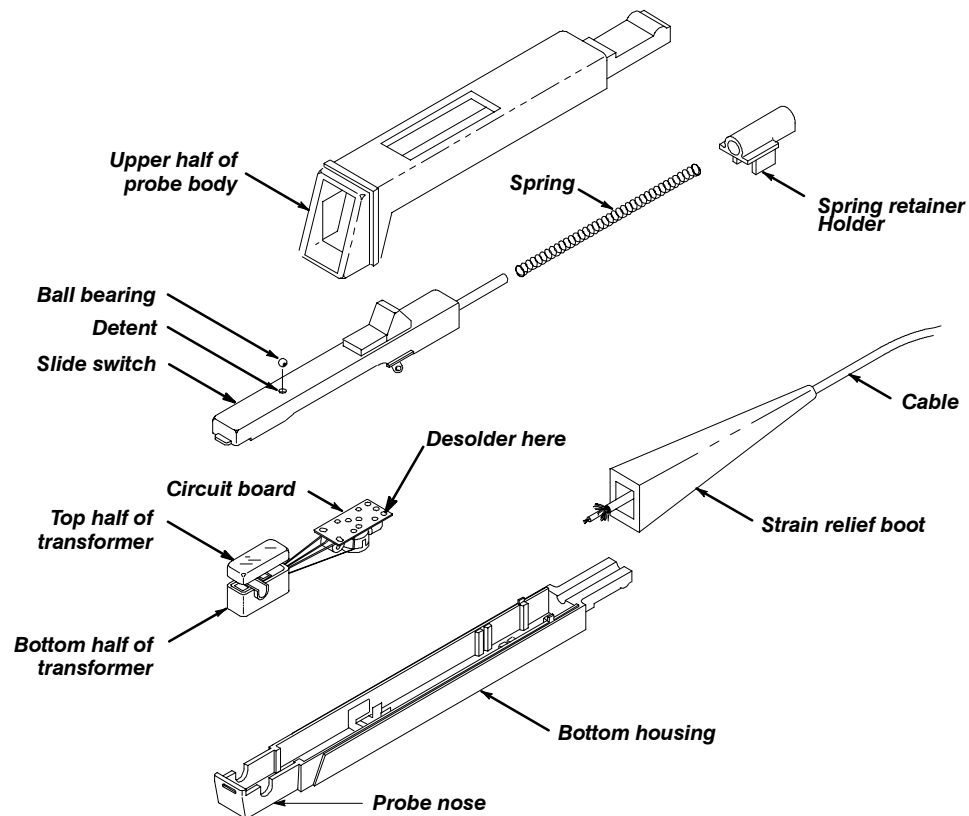

Figure 8: Disassembling the Probe
Use the following procedure to disassemble the probe for cleaning or repair. You will need a low power soldering iron with a fine point. Work over a smooth, clean surface so that you can easily find any small pieces that may drop. Refer to Figure 8 on page 24.
- Step 8:** Desolder the ground connection on the circuit board. See Figure 8 on the page 24.